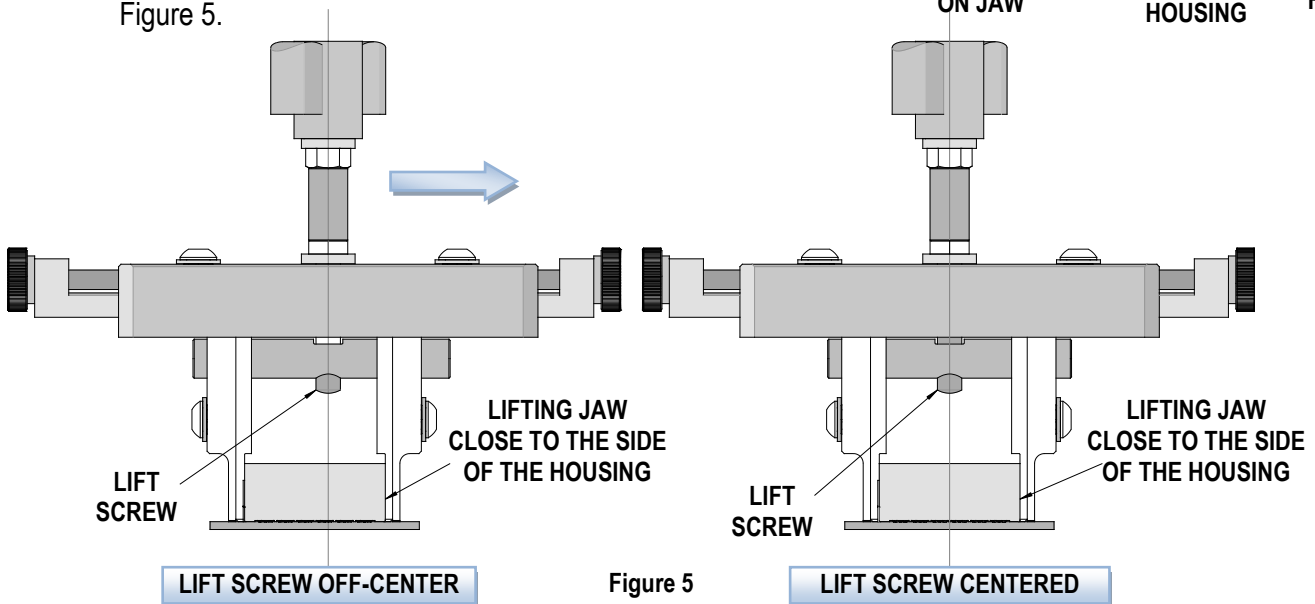

Figure 5
3. Close the Lifting Jaws by turning the adjusting knobs on the PCB onto the backplane header housing. When the teeth are properly engaged in the recesses, the inside of the Lifting Jaws should be very close to the sides of the header housing. See Figure 5.
4. Ideally, the Lift Screw should be centered on the width of the backplane assembly. This will prevent the header assembly from tilting as it is removed from the PCB. If the screw is off-center, the top of the tool (screw, Lifting Bar, and Top Support) can be adjusted until centered. See Figure 5.
6. Turn the Lift Screw Knob clockwise (CW) until the PCB Supports contact the printed circuit board.